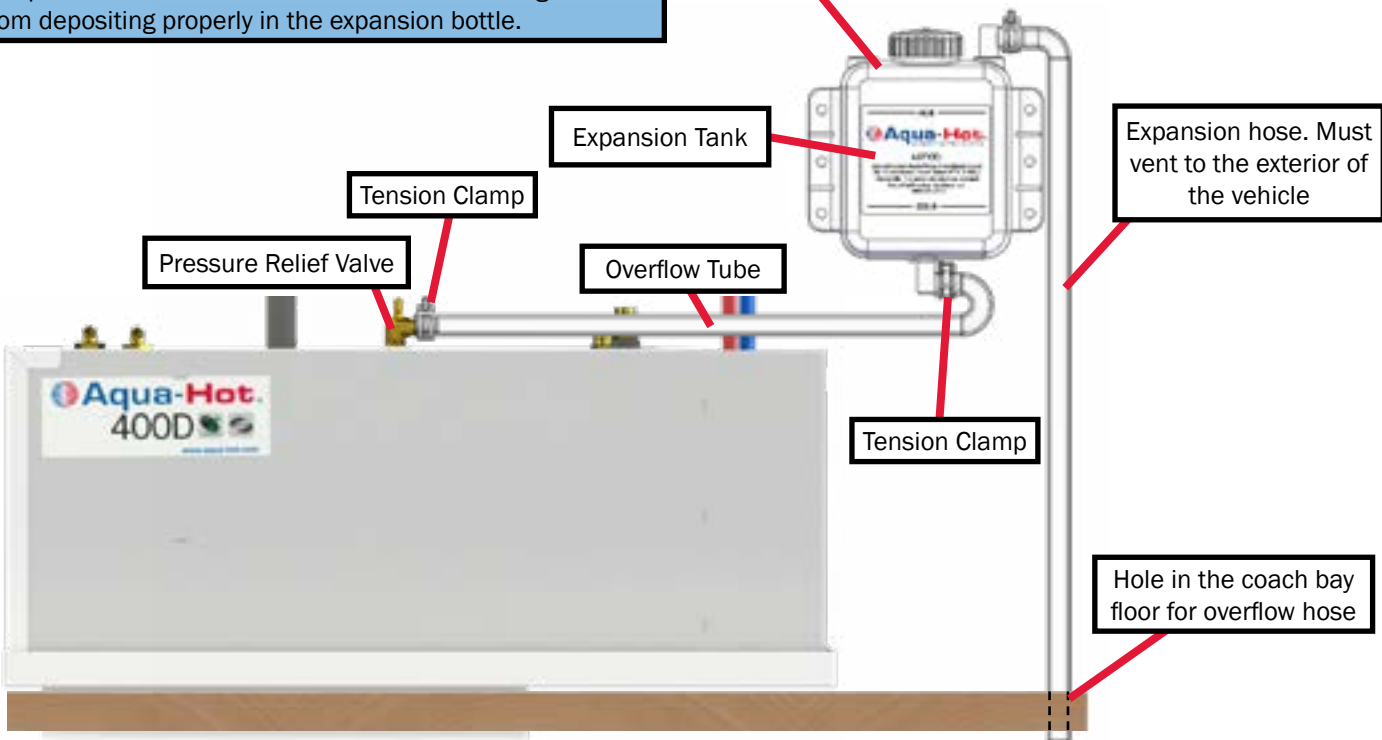

Figure 13
1. Mount the expansion tank as illustrated in Figure 13. The overflow tube should have an incline.
2. Connect and clamp the overflow tube from the expansion tank to the Aqua-Hot's expansion tank connection as shown in Figure 13.